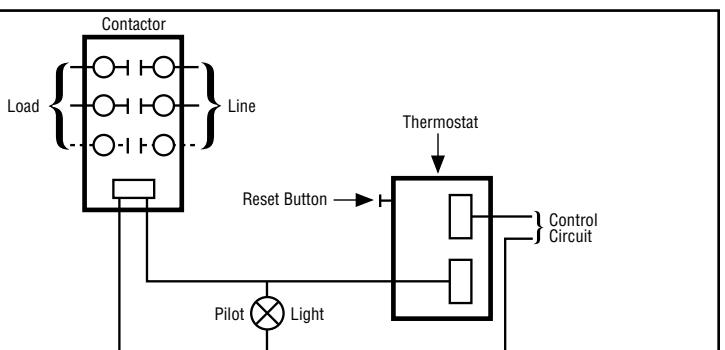

Figure 9 — Three phase and single phase when load exceeds rating of thermostat.
- Note:** If load amperage or voltage rating exceeds switch rating, a contactor must be used. Contactor and wiring to be supplied by customer. (See Figure 9.)